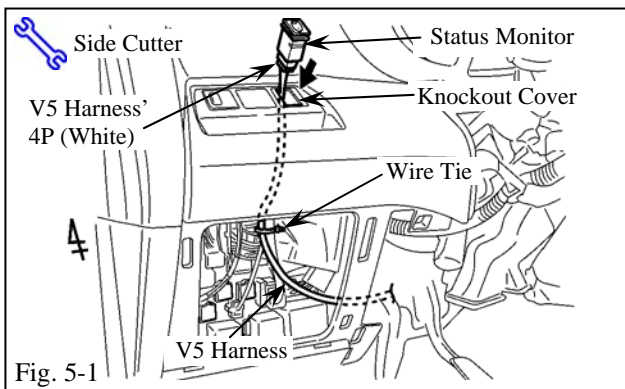

Fig. 5-1
- (a) Remove the knockout cover in the cluster panel, first space from the right, then connect the V5 harness' white 4P connector to the status monitor. (Fig. 5-1)
- (b) Insert the status monitor into the knockout opening of the cluster panel. Secure the V5 harness to the vehicle harness with one wire tie. (Fig. 5-1)